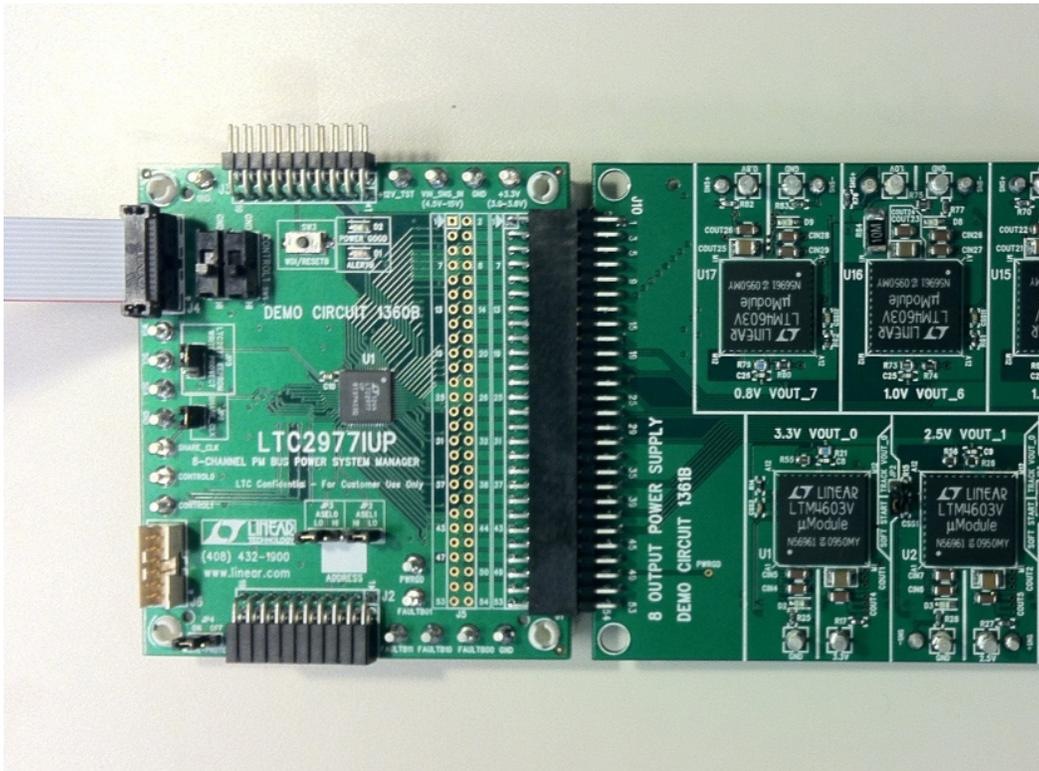

Figure 3. DC1427A Connection
7. If you have a DC1427A, connect to J4 on DC1360B as shown in Figure 3.